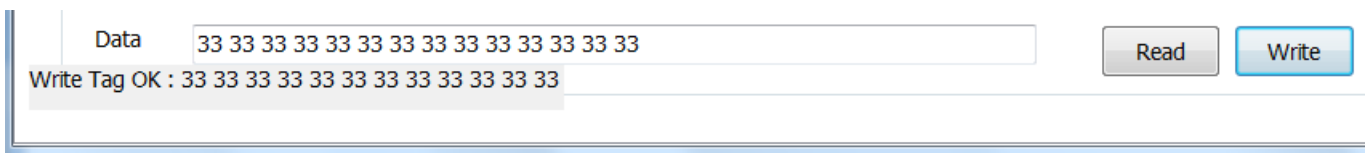

Figure 2.11
**Write card operation:** Set to access the Bank, the Begin, Length and other related parameters, UHF tag set after the completion of the will to operate on the issuing of the antenna. Should be area, in the “data” in the edit box editor to write the tag information, click on “write” button to write the required information, written into work after the lower left corner tip “Write OK” and displays the information write (when need to write information on tag for peration, proposed to HF frequency standard. Sign the induction area, close to the issuing of antenna can improve the success rate of written information; As shown in figure 2.11: